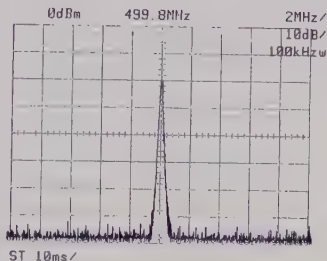

Fig. 3-1 Measurement at 2 MHz/division
Step 5    SPAN/DIV is set to 5 MHz. Each time SPAN/DIV is narrowed, the target signal is displaced from the center of the screen. Correct this position each time by repeating steps (2) and (4).
Step 9 The center frequency displayed at this stage is the frequency to be measured. The accuracy is $\pm (1 \text{ MHz} + 400 \text{ kHz})$, that is, $\pm 1.4 \text{ MHz}$. (See Figure 3-1.)